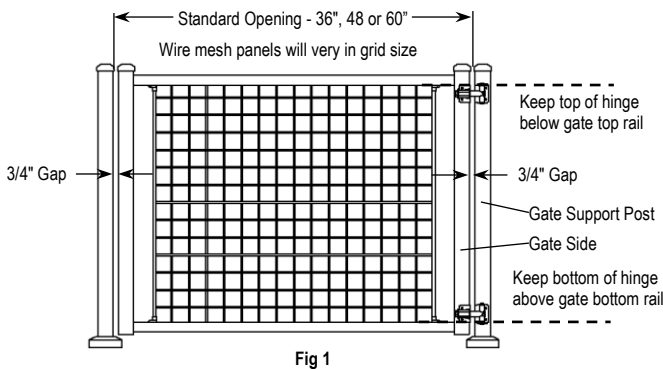

Fig 1
1. Position hinges on gate as shown (Fig 1).